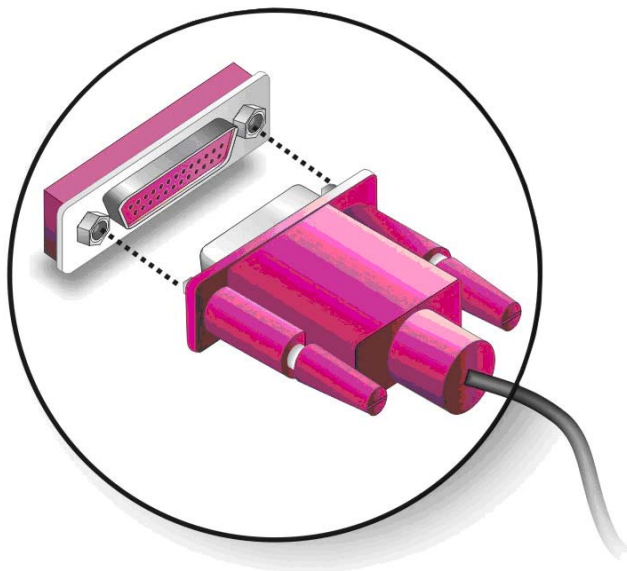

Figure 5-19: Parallel Device Connector
Step 2: Insert the DB-25 connector. Insert the DB-25 connector of a parallel device into the DB-25 connector on the external peripheral interface. See **Figure 5-19**.